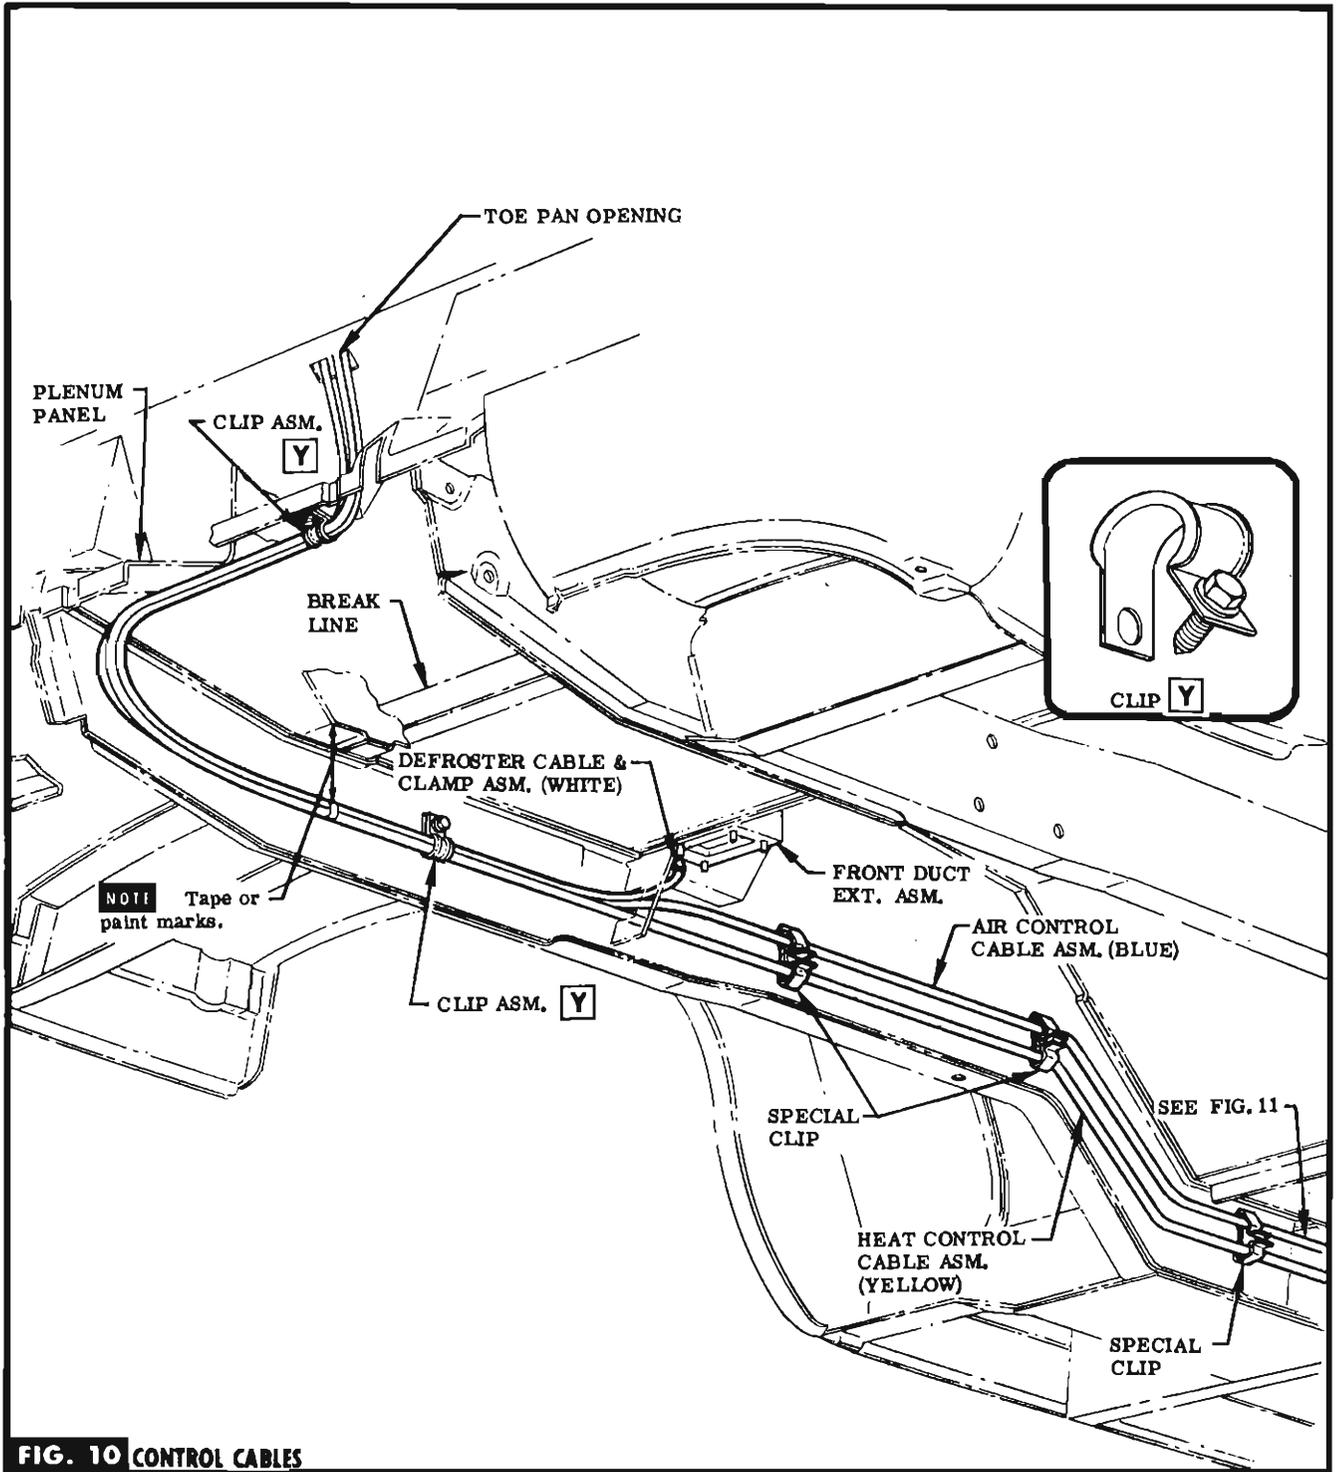

FIG. 10 CONTROL CABLES
TO EXISTING HOLES IN PLENUM PANEL & SIDE RAIL WITH CLIPS (IN BAG B). SEE FIG. 10.
STEP 56 ATTACH CLIPS (IN BAG B) TO HEAT & AIR CONTROL CABLES & INSERT CLIPS INTO EXISTING HOLES IN SIDE RAIL. SEE FIG. 10.